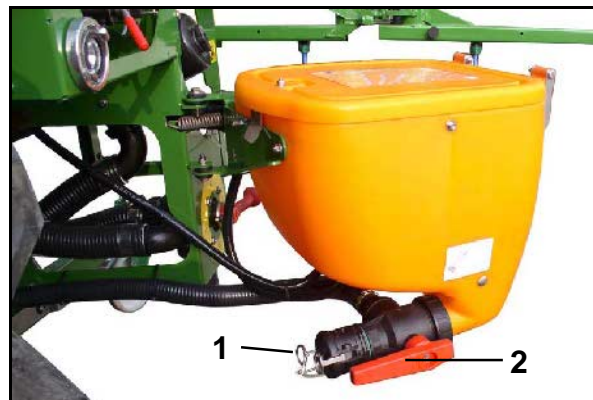

Fig. 214
7. Remove the cap (Fig. 214/1) on the reversing tap Suck off induction bowl / Suction joint for spray cocktail tank. Swivel the reversing tap (Fig. 214/2) in position "Suction joint for spray cocktail tank".